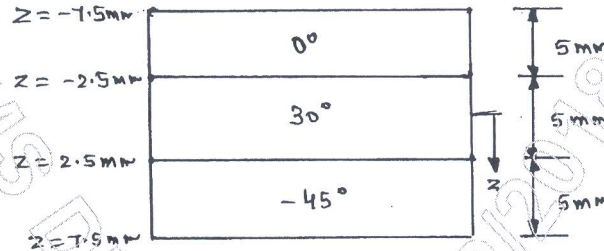

Fig.Q6 : Thickness and coordinate locations of the 3-ply laminate
- 6 Find the three stiffness matrices [A], [B] and [D] for a three ply $[0^\circ / 30^\circ / -45^\circ]$ graphite | epoxy laminate as shown in Fig.Q6. Use the unidirectional properties of graphite/epoxy. Assume each lamina has a thickness of 5 mm.